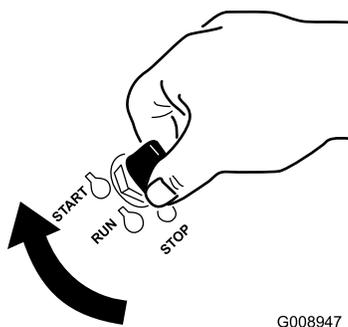

Figure 14
1. Turn the ignition key to the Start position (Figure 14). When the engine starts, release the key.
- Turn the ignition key to the Start position (Figure 14). When the engine starts, release the key.